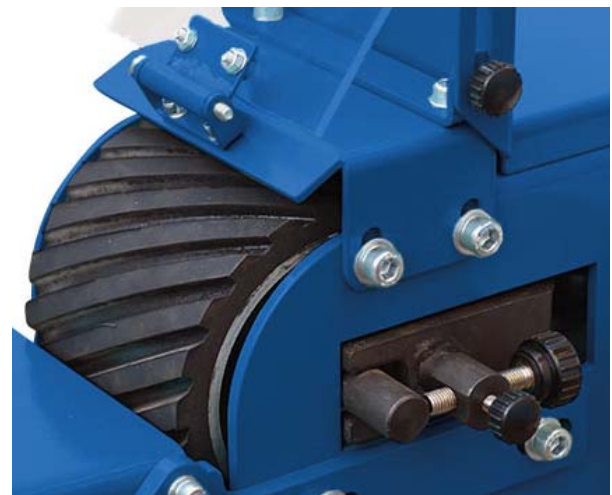

Fig. 12: Tension grinding belt
Step 8: Tension the abrasive belt by turning the adjusting screws (Fig. 12).
Step 9: Adjust the running of the abrasive belt by turning the adjusting screws (Fig. 12) in the centre.